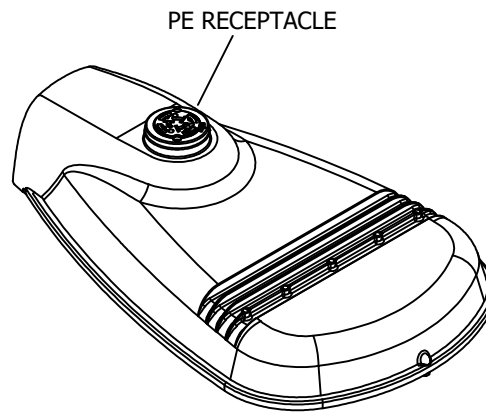

FIGURE 5
- 5. PHOTOELECTRIC CONTROL:** ORIENT THE PHOTOELECTRIC (PE) RECEPTACLE SO THAT THE WORD "NORTH" IS DIRECTED TRUE NORTH. SEAT AND LOCK THE PE CONTROL/RECEPTACLE AND ROTATE CLOCKWISE UNTIL WORD "NORTH" IS TRUE NORTH. LOWER PE RECEPTACLE INTO POSITION SEE **FIGURE 5 & 6**.